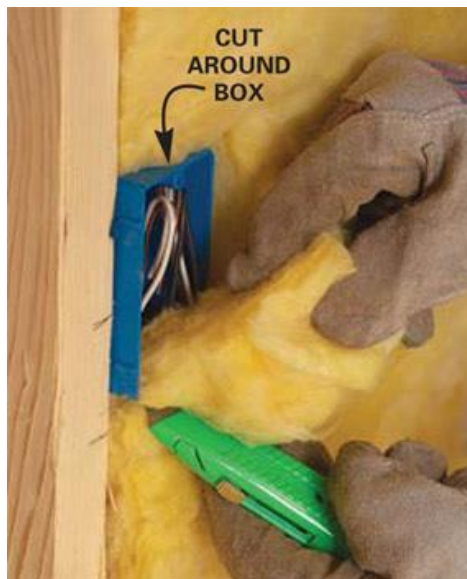

Figure 12-7. Insulating Around Electrical Box.
7. Cut out around electrical boxes, as tightly to the box as possible (see Figure 12-7).